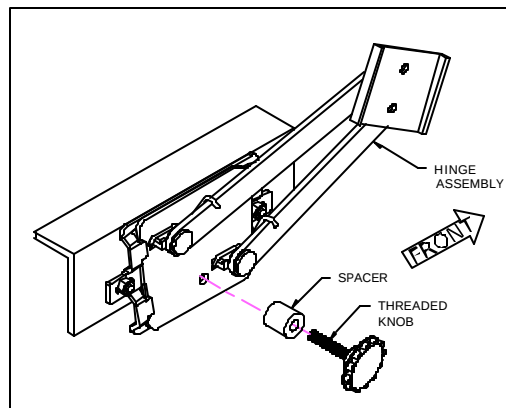

Figure 15.
- Secure the rear half of the tonneau cover. Install the threaded knob and spacer into the hole on both the driver and passenger side hinge plates. **See figure 15.**